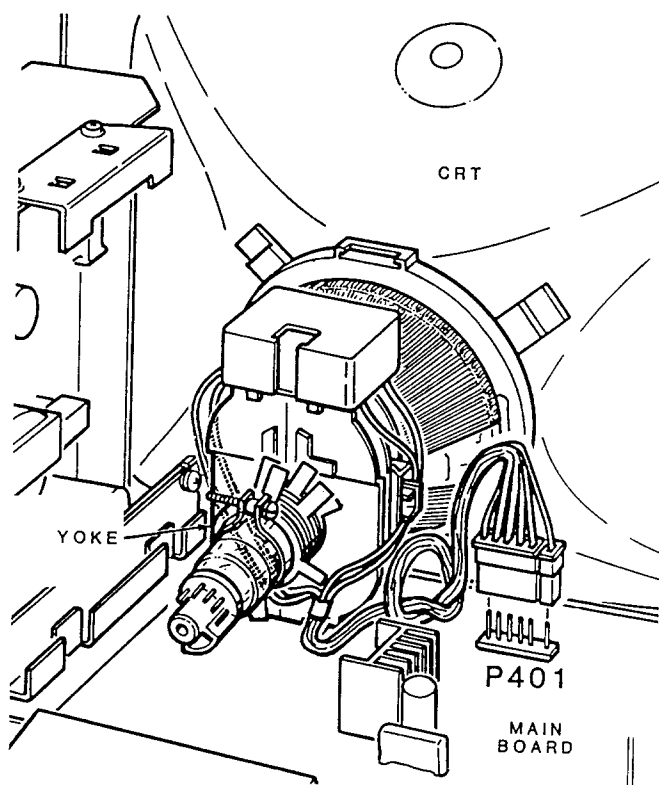

Figure 3-19. Disconnecting Yoke Connector P401
3. Disconnect yoke connector P401 (6-pin, 4-wire) from the main board, as shown in Figure 3-19.